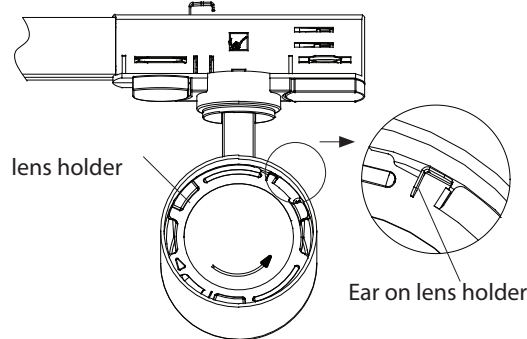

Fig.9
Step 2: Rotate lens holder with ears counterclockwise to remove it. (See **Fig 9**)